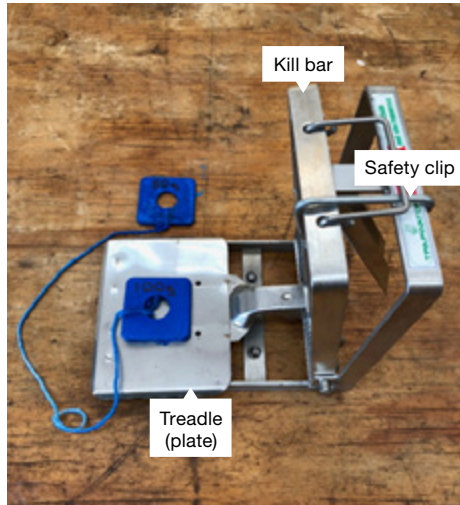

Figure 7.
2. **You want the trap to hold at 50 g.** For the first weight test use the 50 g weight. Place it gently and slowly on the location shown on the treadle plates in Fig. 7. The trap should not be triggered by the 50 g weight. If the trap does trigger, it will require calibration.